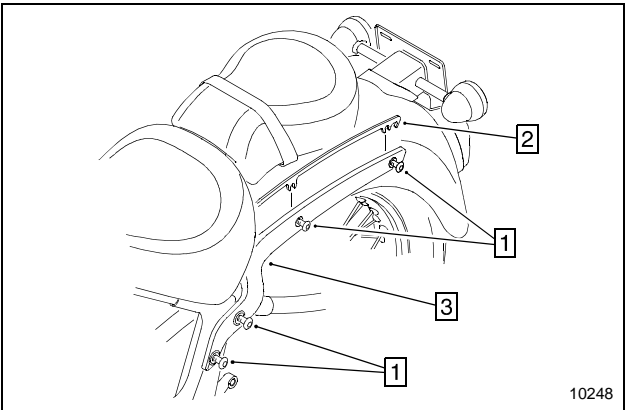

Figure 2
1. Loosen, but do not remove, the rear fender mounting screws on each side of the motorcycle (see Figure 2).